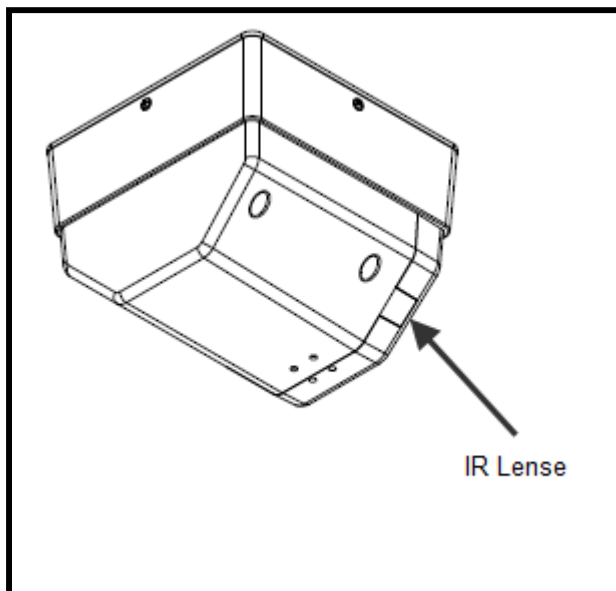

Figure 13 – IR Lens Location
- Remove the tape covering the IR Lens. See **Figure 13**.